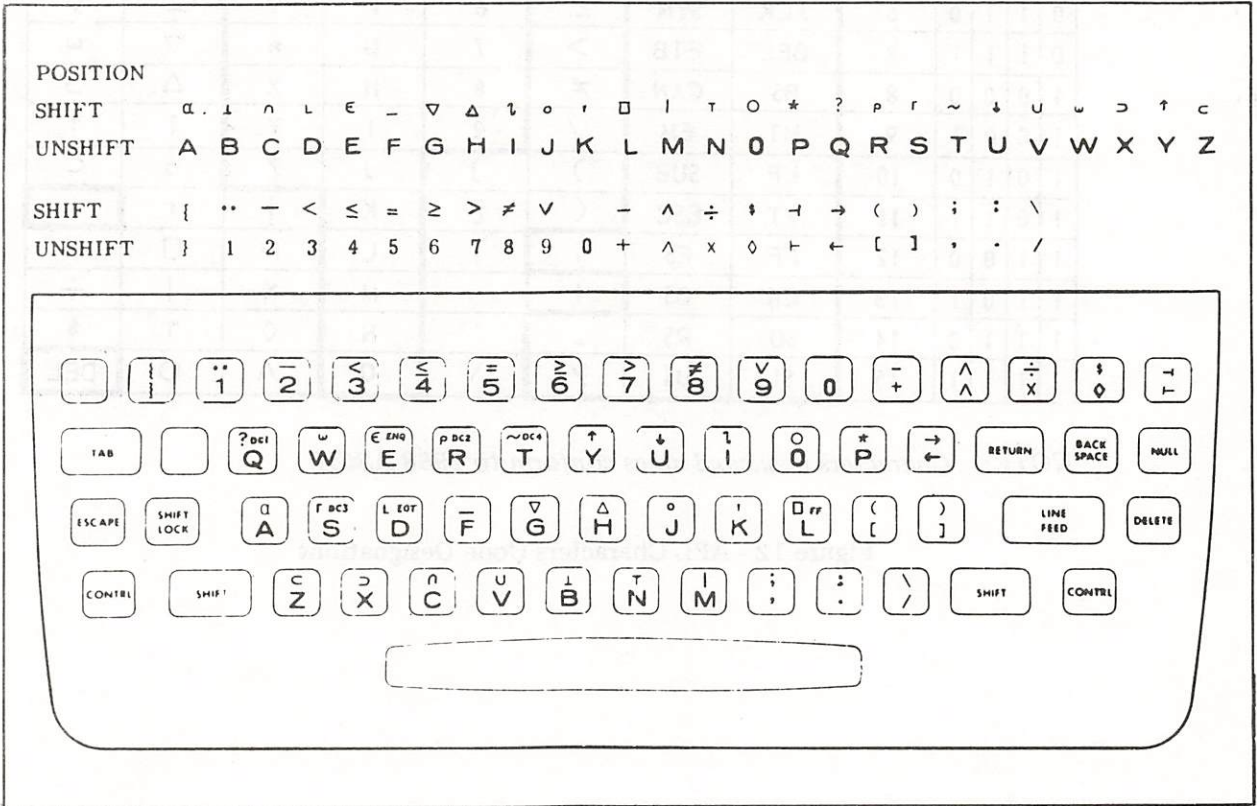

Figure 11 - APL Keyboard and Type Wheel Layout
4.01 The keyboard used on APL (A Programming Language) sets is mechanically similar to the standard keyboard described in this section. It is different in a number of ways. The 8th bit always marking option available on the standard keyboards is not available on the APL keyboard. Figure 11 shows the APL keyboard layout with the matching type wheel character layout.